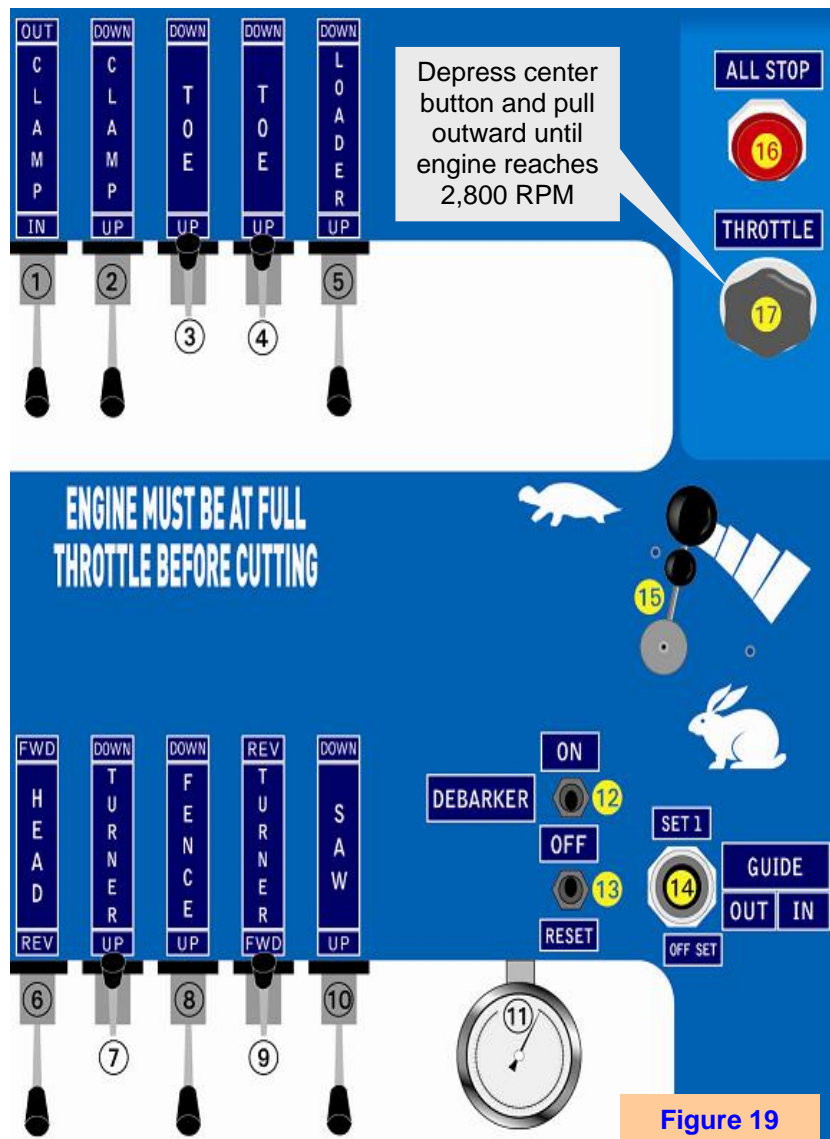

Figure 19A
- ☐ Depress throttle center button (#17) and pull throttle cable outward (see **Figure 19**) until the engine reaches 2,800 RPM (see **Figure 19A**).